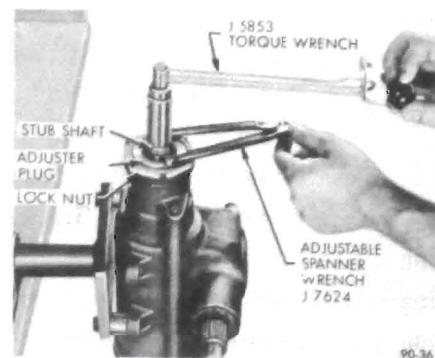

Figure 90-21 Adjusting Thrust Bearing Preload
5. Using an in.lb. torque wrench on the gear stub shaft measure the drag torque. See Figure 90-21 (this consists of valve and seal drag + ball nut and worm drag).